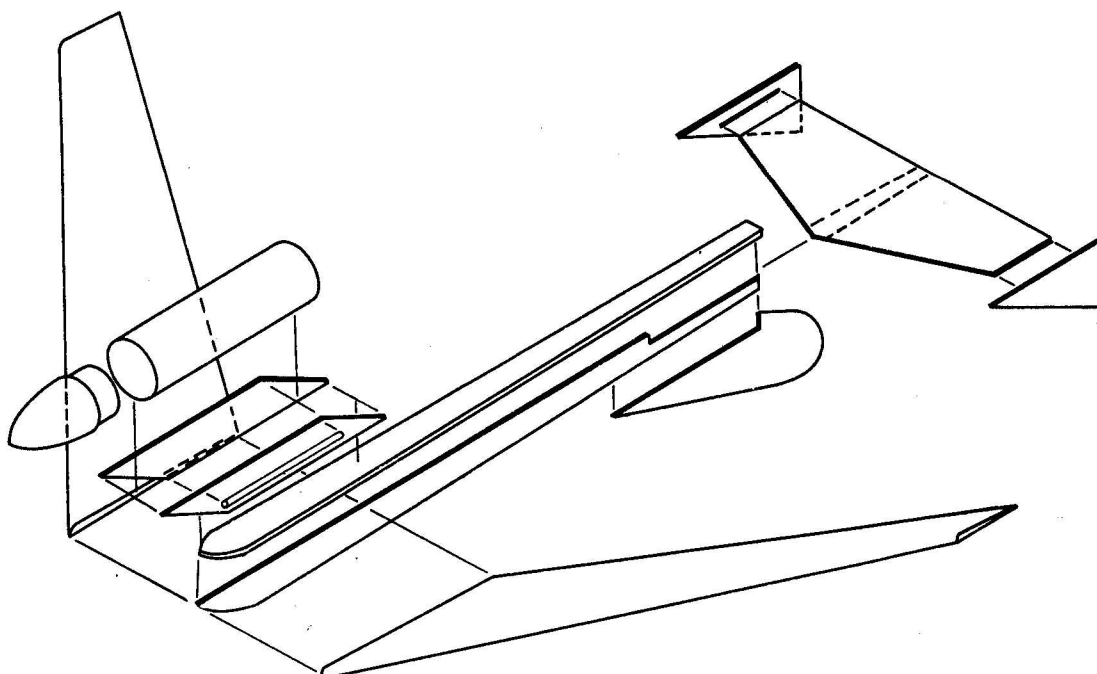
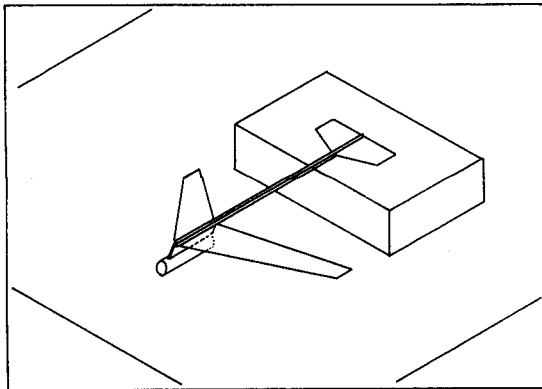
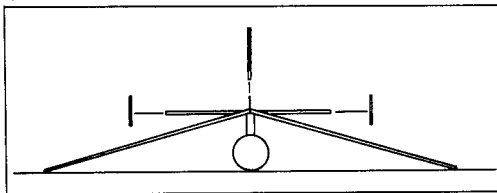
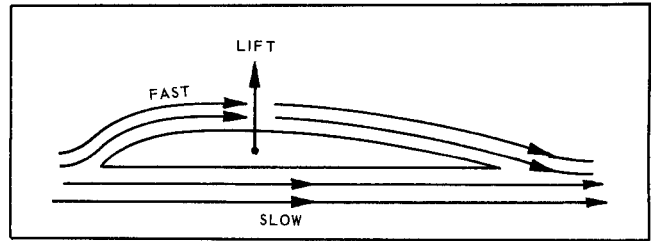

Figure 2
Figure 5
Figure 6
Figure 7
**Step 8.** Attach wings at joint between F-1 and F-2 (just under the pylon) so that they will slope upward when the plane is held with the body tube up. (See placement of wings in Fig. 6 and Fig. 5.) Allow to dry before proceeding.
**Step 11.** When wings are completely dry, sand them so that the upper surface is rounded at the leading edge and tapered at the trailing edge as shown in Fig. 2 and Fig. 7. This is the most important part of the construction, since a proper airfoil (wing shape) is necessary for a proper glide. The theory behind this shape is relatively simple. It has been found that the air speed on a wing of a shape like that of Fig. 6 (a cross section view) will be greater on the top surface than the lower surface. Thus, the pressure is greater on the lower surface and this greater pressure tends to force upward, or "lift", the wing and the whole plane.